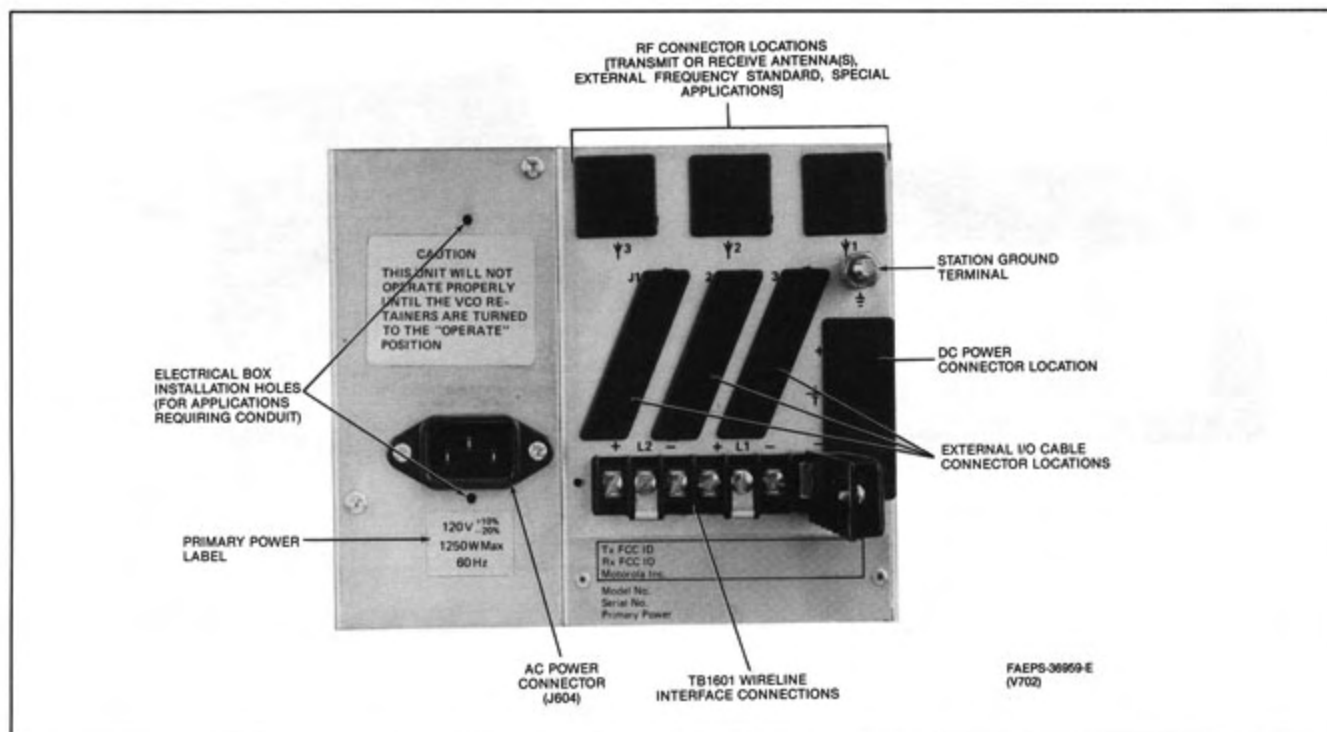

Figure 3. Junction Box External Connection Detail
Step 4. Attach a 4-1/8" x 2-3/8" x 1-1/2" electrical box (Appleton Catalog No. 184-E, universal code 69351 or equivalent box, using an extension ring to protect the wires from sharp edges, not supplied) to the junction box using two 6-32 x 5/16" self-tapping washer head screws in the holes provided. See Figure 3.